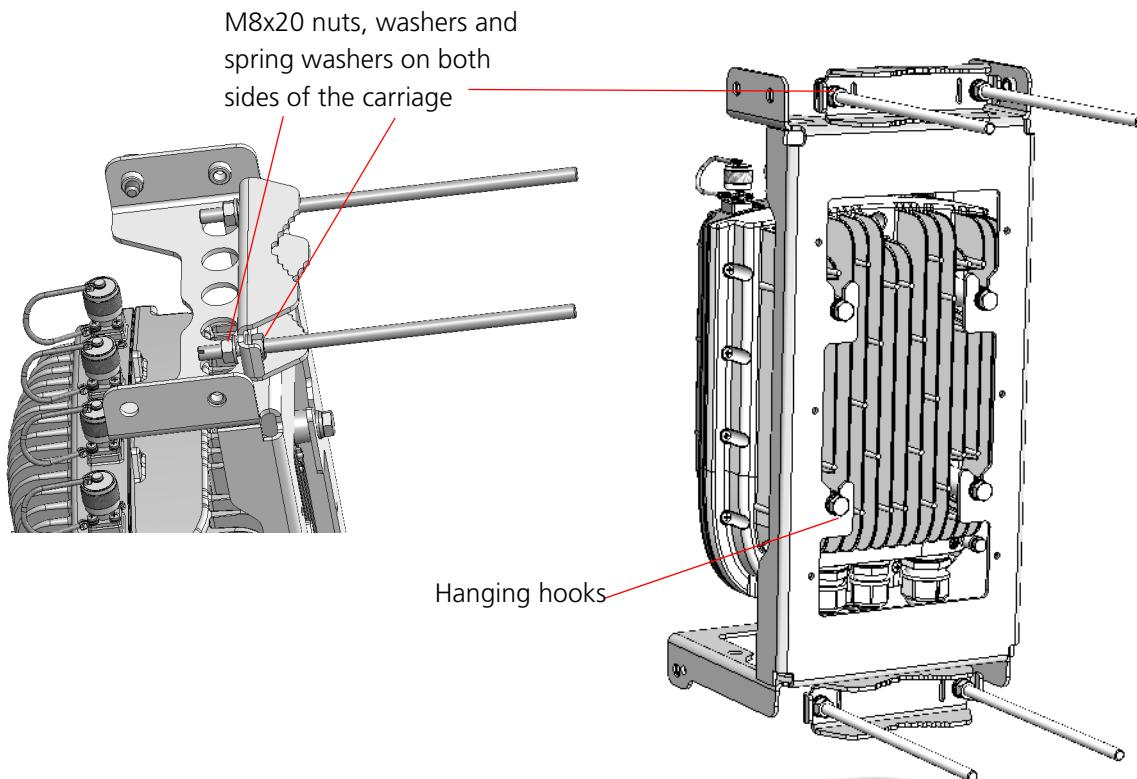

Figure 2-7: BTS Installed on the Carriage
- 4** Attach nuts, washers and spring washers to both sides of the threaded rods and fasten to fix the rods in place on the carriage (Figure 2-7).